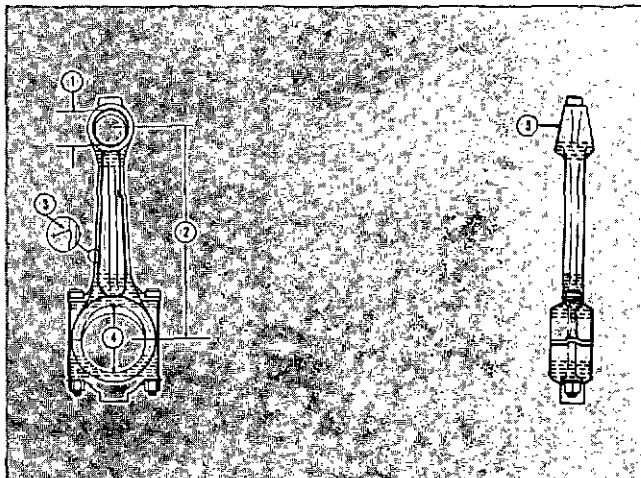
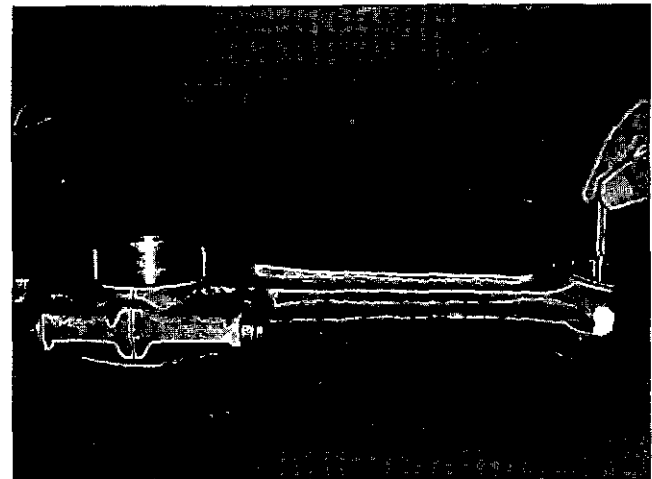

Fig. 1-8-1, V40114. Connecting rod specifications
Fig. 1-8-2, V40185. Checking connecting rod piston pin bushing
b. Check rods for cracks with 3000 to 3400 ampere-turns with AC equipment or 2600 to 2800 ampere-turns with DC or rectified AC equipment in a coil. Pay particular attention to shaded critical areas shown in Fig. 1-8-1.
3. Check crankpin bore with a dial bore gauge or inside micrometers. Correct size is important to provide correct bearing crush. See Table 1-8-2 and (4, Fig. 1-8-1).
4. Check piston pin bushing diameter with ST-205 plug gauge or with inside micrometers. See Table 1-8-2, Fig. 1-8-2 and (1, Fig. 1-8-1).
1. Select a new rod that has been checked for correct absolute center to center (2, Fig. 1-8-1) length, 12 inch [304.8000 mm] between centers. (Production rods may vary from 11.998 to 12 inch [304.7492 to 304.8000 mm].
2. Remove nicks and dents which are less than 1/16 inch [1.5875 mm] deep by grinding or filing with a half-round file. Radius must be 1/2 inch [12.7000 mm] or more. Blend radii at ends of cut. Scrap rod if dents are deeper than 1/16 inch [1.5875 mm] (Fig. 1-8-1).